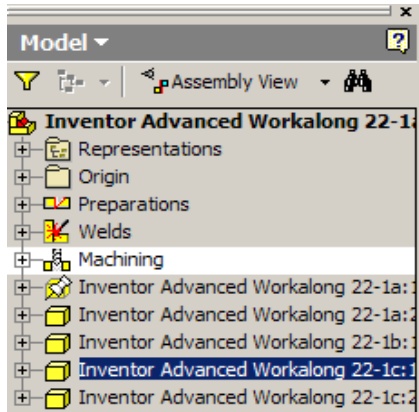

Figure Step 2
Step 2 Right click the Machining item in the Browser bar. In the right-click menu, click Edit. (Figure Step 2)